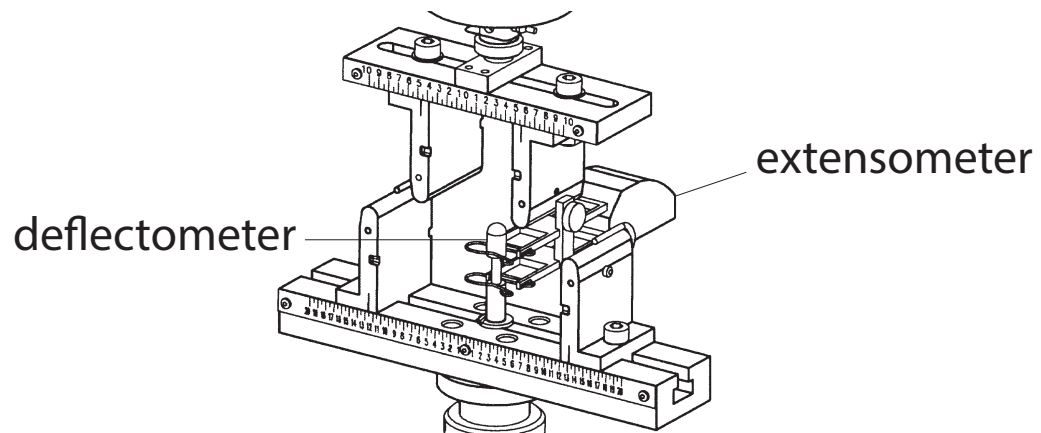

Figure 4. Deflectometer
- deflector - a spring-loaded plunger used to measure specimen deflection (see Figure 4 on page 13).